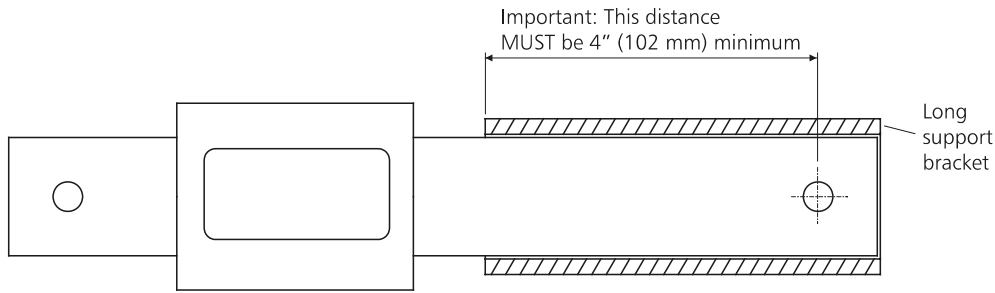

Figure 6 A well supported load cell.
- Load cells must be adequately supported. On the long support bracket, the distance between the mounting pin and the end of the bracket must be 4" (102 mm) minimum (see *Figure 6*). The distance used must be identical for each load cell in the installation.